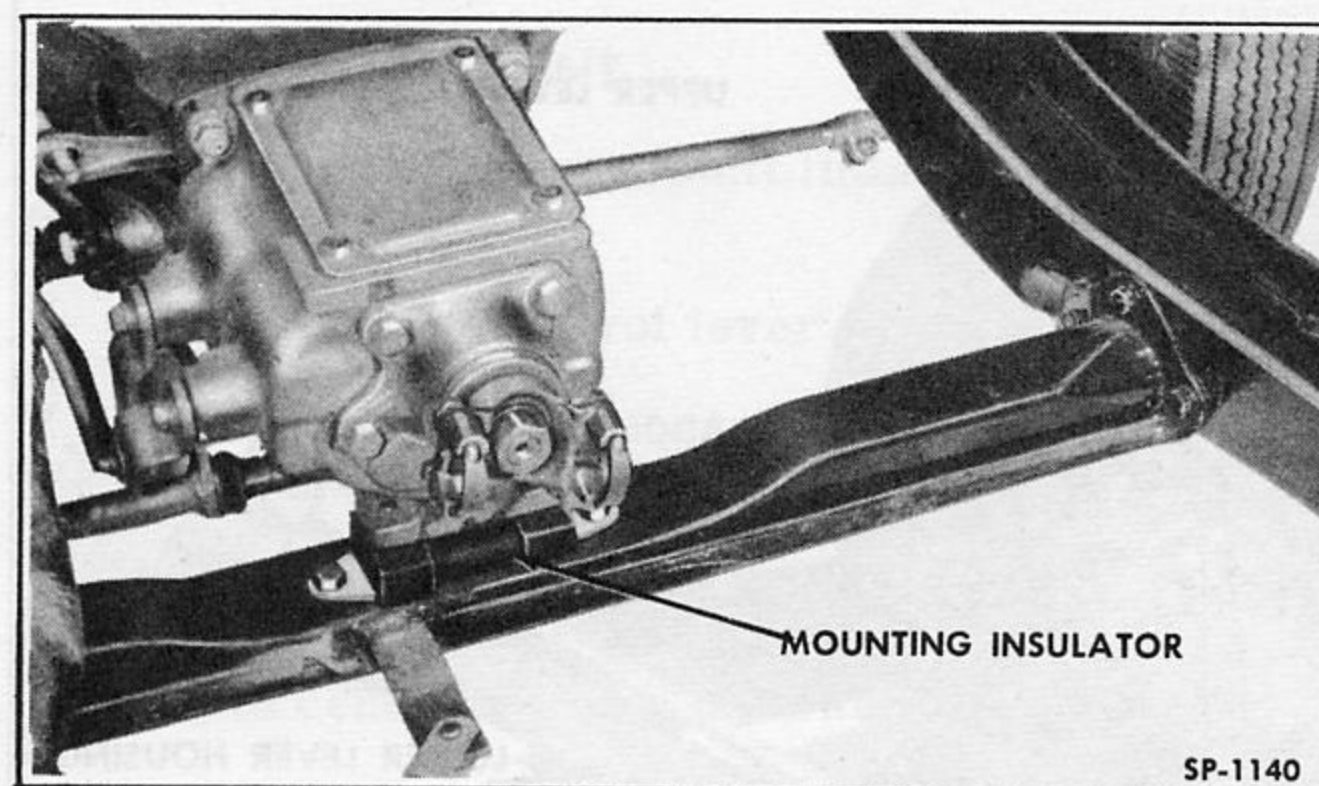

Fig. 124—Standard Transmission Mounting
7. Remove bolts attaching rear engine mounting insulator (Fig. 124) to frame crossmember.